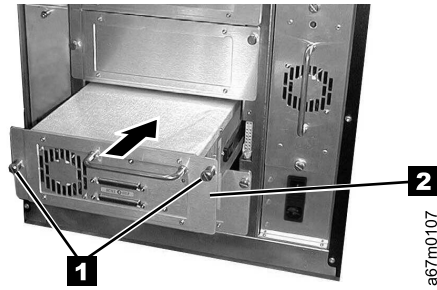
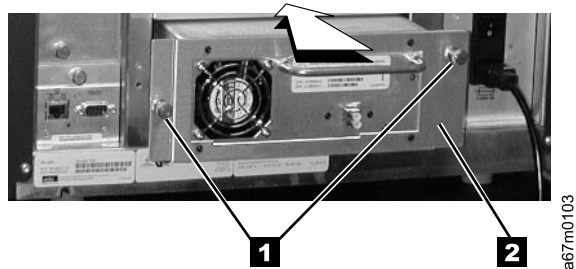

Figure 30. Installing a drive sled that contains an Ultrium 1 Tape Drive
Figure 31. Installing a drive sled that contains an Ultrium 2 Tape Drive
3. From the rear of the library, locate the drive slot where you want to install the drive sled. Loosen the two captive thumbscrews on the filler plate and remove the filler plate (see **1** in Figure 30 on page 51 or Figure 31 on page 51). Save the filler plate for future drive maintenance activity.